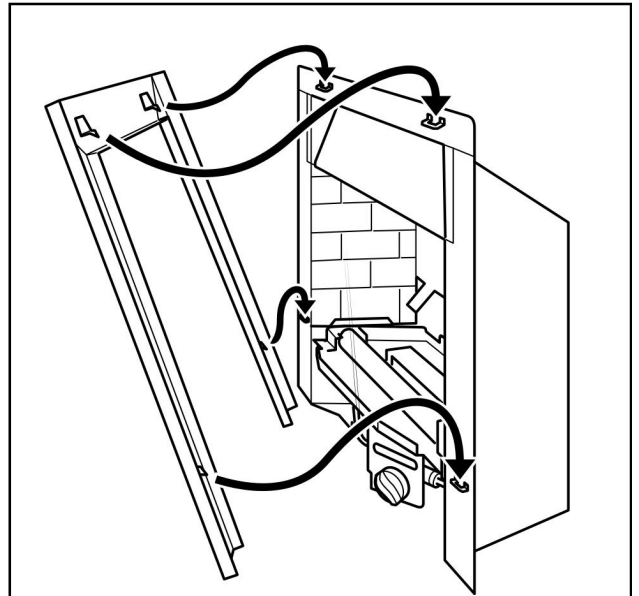

Figure 28. Fascia location (Fascia may differ from that shown)
1. Carefully lift the fascia. Place the fascia against the fireplace front surface so that the four retaining plates at the back of the fascia are directly above the four retaining brackets on the hotbox. Lower the fascia unit making sure that the retaining plates locate fully into the brackets on the hotbox (See figure 28). If the inlet pipe runs along the front of the fireplace, the bottom of the fascia will have to be swung forward to clear the pipe while lowering the fascia.